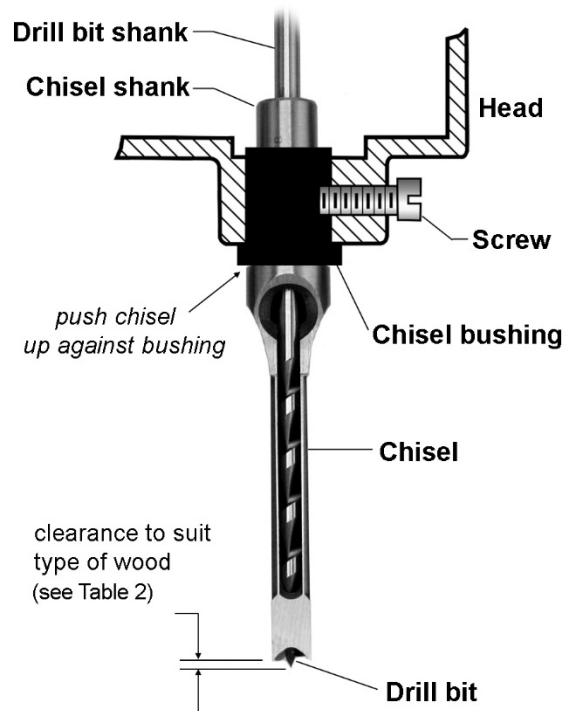

Figure 10-6
1. Insert chisel bushing with hole facing forward (toward operator). See Figure 10-6. Tighten screw just enough to hold chisel bushing in place.